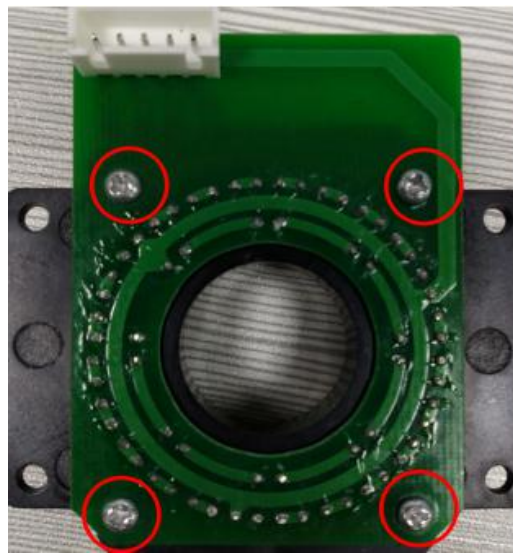

Fig 7.4-2
3.Removed the LED light board is connected to corneal lamp holder,need to screw out the four M2.5*5 cross plate self-tapping screws,which is used to fixed LED light board and corneal lamp holder,then remove the LED light board,as shown Fig7.4-2.